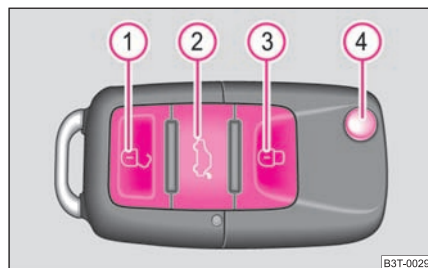

Fig. 34 Radio-operated key
- Press button **2** for about 1 second ⇒ fig. 34. Further information ⇒ page 41.
- Press button **2** for about 2 second ⇒ fig. 34. Further information ⇒ page 41.